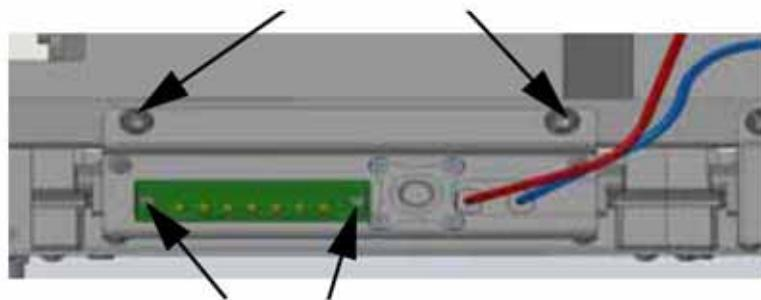

Figure 5.10-15. Screw Locations
2. Slide the module into position and tighten the screws as shown in Figure 5.10-15.